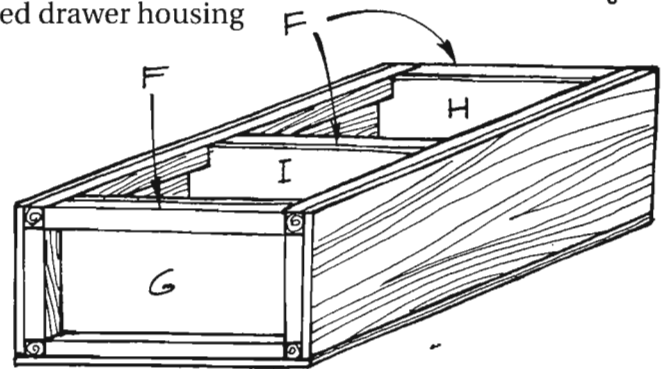

Figure 6
2. Stand the armoire (well, half-assembled armoire) right side up. Fit the bottom (H) over the lowest inner 2 x 2 horizontal supports. Glue and screw it to all four of the horizontal supports using 1-1/4-inch-long screws spaced approximately 6 inches apart. Take extra care to make certain that the front horizontal supports (F) are flush with the exposed edges of the bottom (H), as shown in *Figure 6*.
3. Repeat the process to add the middle shelf (I), fitting it onto the horizontal supports that are 29-1/4 inches from the top. Again make sure that the front edges are flush, as you did for the bottom (H).
4. The top (G) is attached to the uppermost horizontal supports, but it is attached on the lower face of those supports so that the horizontal supports will not be visible inside the finished armoire. Attach it in the same manner used for the shelf (I), making sure that the front edges are flush.